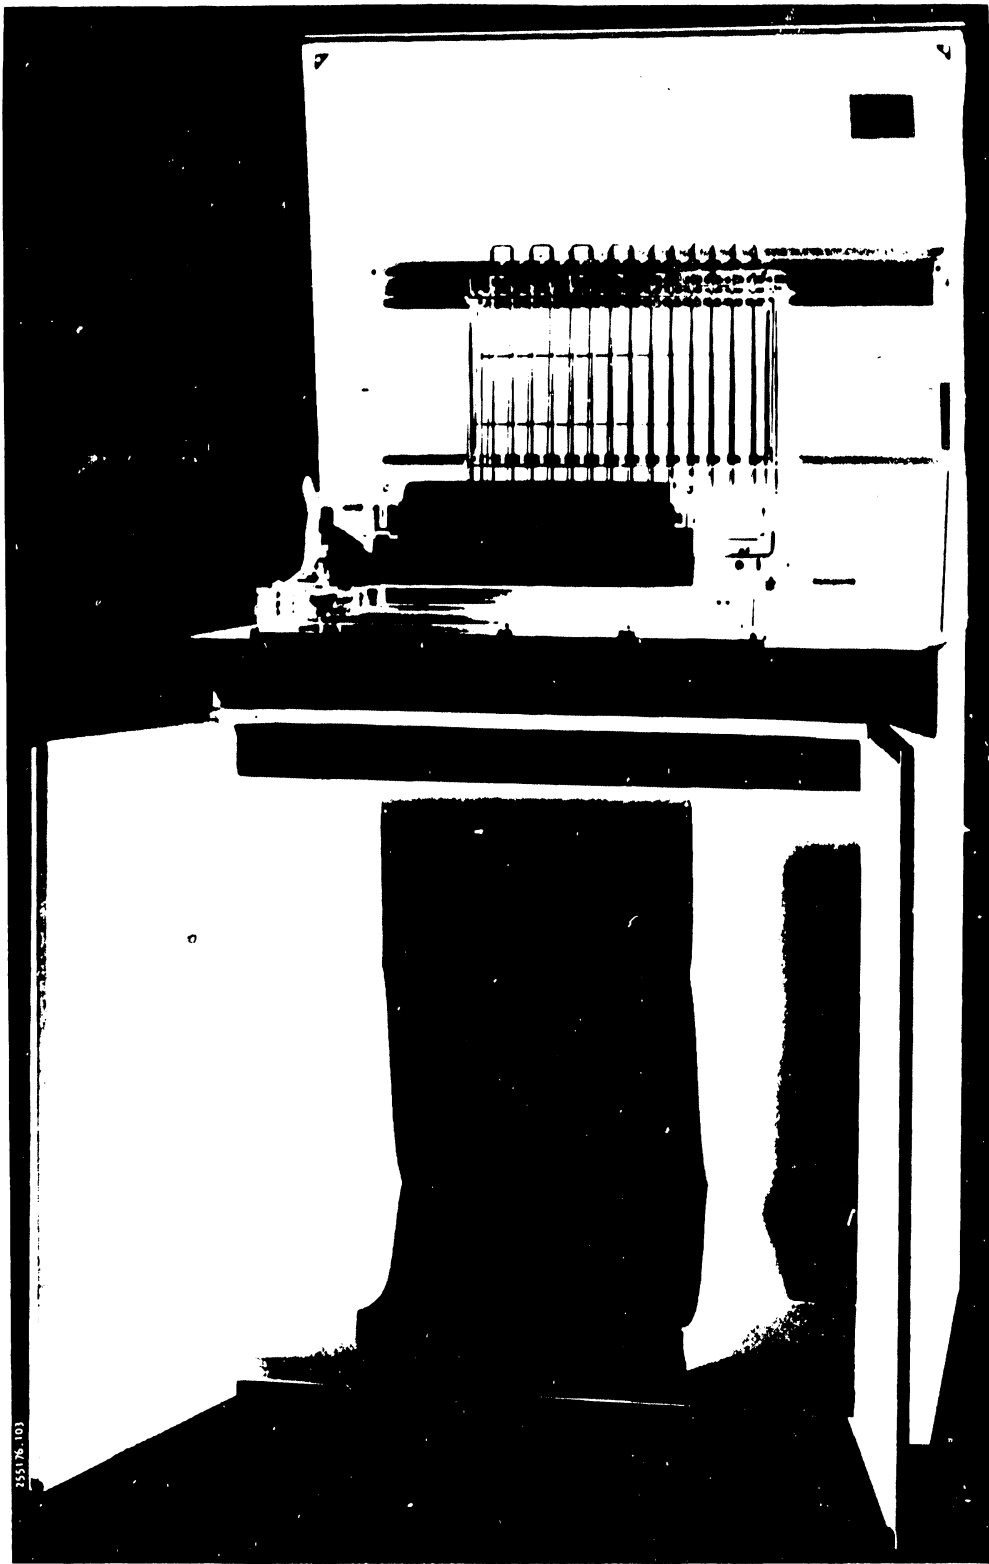

Figure 1-4. Acoustic Cabinet Option, Cover Raised and Doors Open
1.5.11 Acoustic Cabinet (Figure 1-4)
The acoustic cabinet is an option for 300 LPM and 600 LPM printers. It is an acoustically insulated, floor length cabinet that fully encloses the printer and provides quiet operation. Figure 1-4 shows the cabinet with top cover raised and front access doors open. A separate publication, the 300 LPM/600 LPM/1000 LPM Acoustic Cabinet Maintenance Guide (DPC 267788), gives complete maintenance and troubleshooting information for printers mounted in the acoustic cabinet.